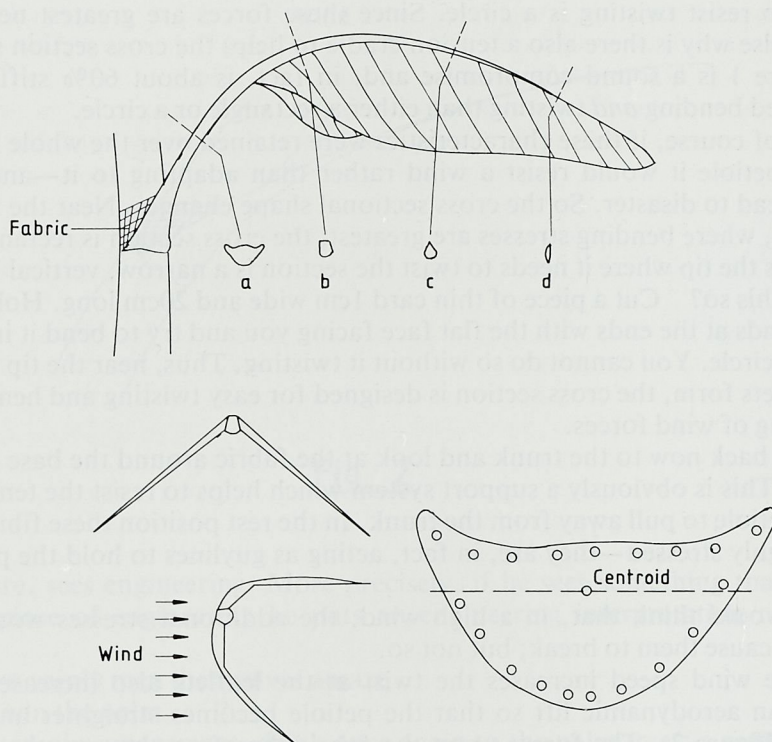

Fig 1
- (1) Repeat A1 and proceed from here.
- (2) Study Figure 1 as carefully as you are able.
- (3) Observe the petiole carefully. Note that it is in the shape of a bent cantilever, and that the leaflets form a flexible blade.
- (4) If you can create a small wind note that the petiole twists in order to equalise the wind forces on the two sides of the petiole.
- (5) Note also that the action of the wind is to lift the petiole.
- (6) If at any stage none of these phenomena are apparent GOTO A1 (that is the correct computer term, by the by).
- (1) GOTO A1 and then proceed from here.
- (2) Observe closely the shape of the petiole. Where it joins the trunk it is a semicircle, a little farther along it is as shown in Figure 1, near the very top of the arch it is almost rectangular, then triangular and, at the tip where the leaflets form it is a thin vertical blade.
- (3) Since that is quite a lot to take in all at once you may, if you so wish, GOTO A1.
- (4) Look at the attachment of the petiole to the trunk. It much resembles the old sacking referred to in my first paragraph. You will find that, if you slice this through each string will snap with the sound like a breaking banjo string. When enough are cut the whole petiole will fall on your head producing an effect (and an after effect) not unlike that produced by an excess of palm wine.
shape to resist twisting is a circle. Since these forces are greatest near the trunk (else why is there also a tension cradle to help) the cross section shown in Figure 1 is a sound compromise and, in fact, is about 60% stiffer for combined bending *and* twisting than either a rectangle or a circle.
Finally, where those threads disappear into the petiole they start to bunch and, in a short way in, start to form bundles of strong reinforcing fibres. Since these fibres have very high tensile strength they are used just like the steel bars in reinforced concrete—on the tensile side of the beam. And if you look at a section of the petiole at some point such as Figure 1 you will see most of these reinforcing bundles exactly where you would expect to find them—near the top of the semicircle cross section where the tensile forces are greatest. And, for good measure, there will be a particularly noticeable bundle on each of the 'ears' which act as stiffeners to prevent local buckling.